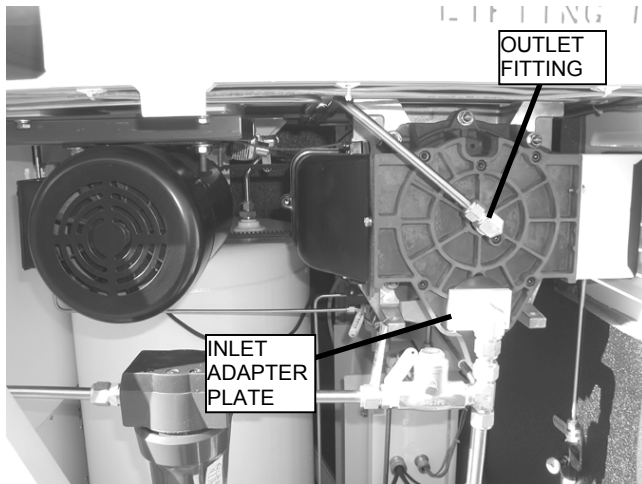

Figure 1. View of Scroll Compressor In the EDOCS-120.
- b. Open the left front door to gain access to the scroll compressor. Refer to Figure 1 for the location of the scroll compressor and the attached components.
- b. Remove the inlet adapter plate from the scroll compressor. Refer to Figure 1.
- c. Remove the outlet tube from the outlet fitting. Refer to Figure 1.